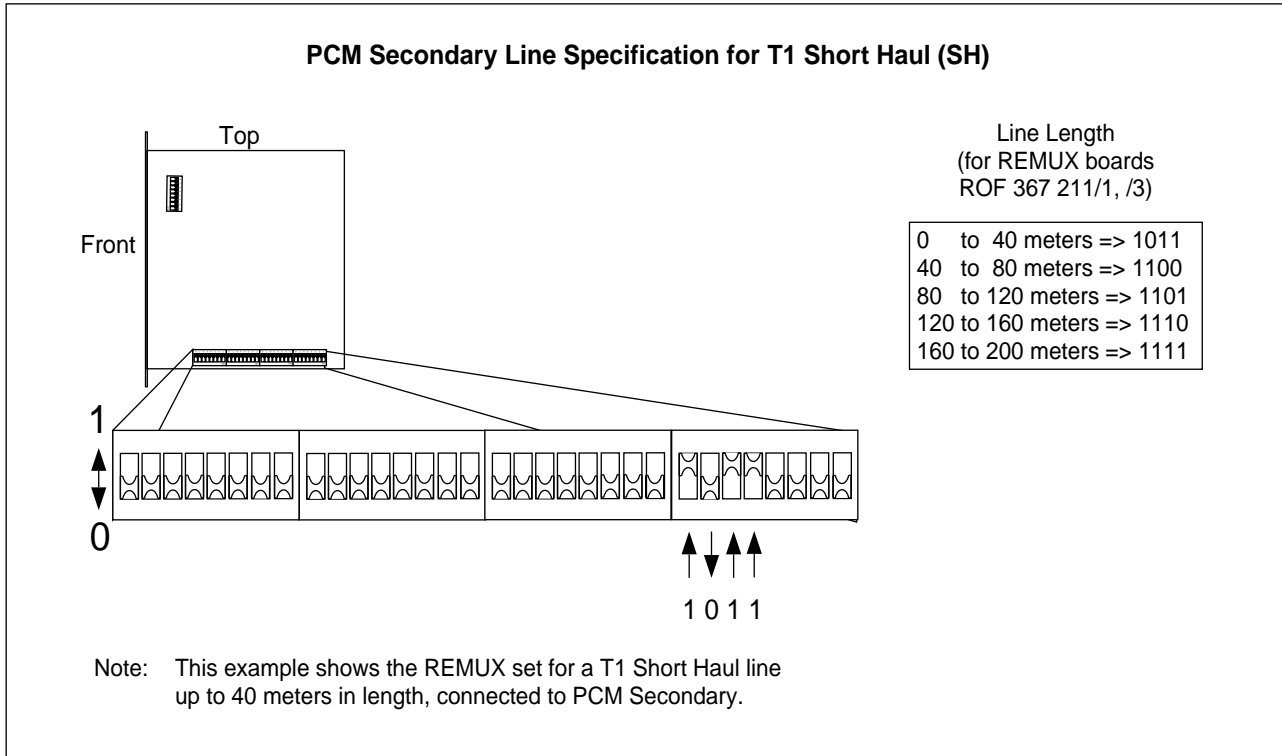

Figure 4-25. Settings for the PCM Secondary Line Specification, T1 Short Haul
- If line length is used (T1 Short Haul), see Figure 4-25 on page 4-44.